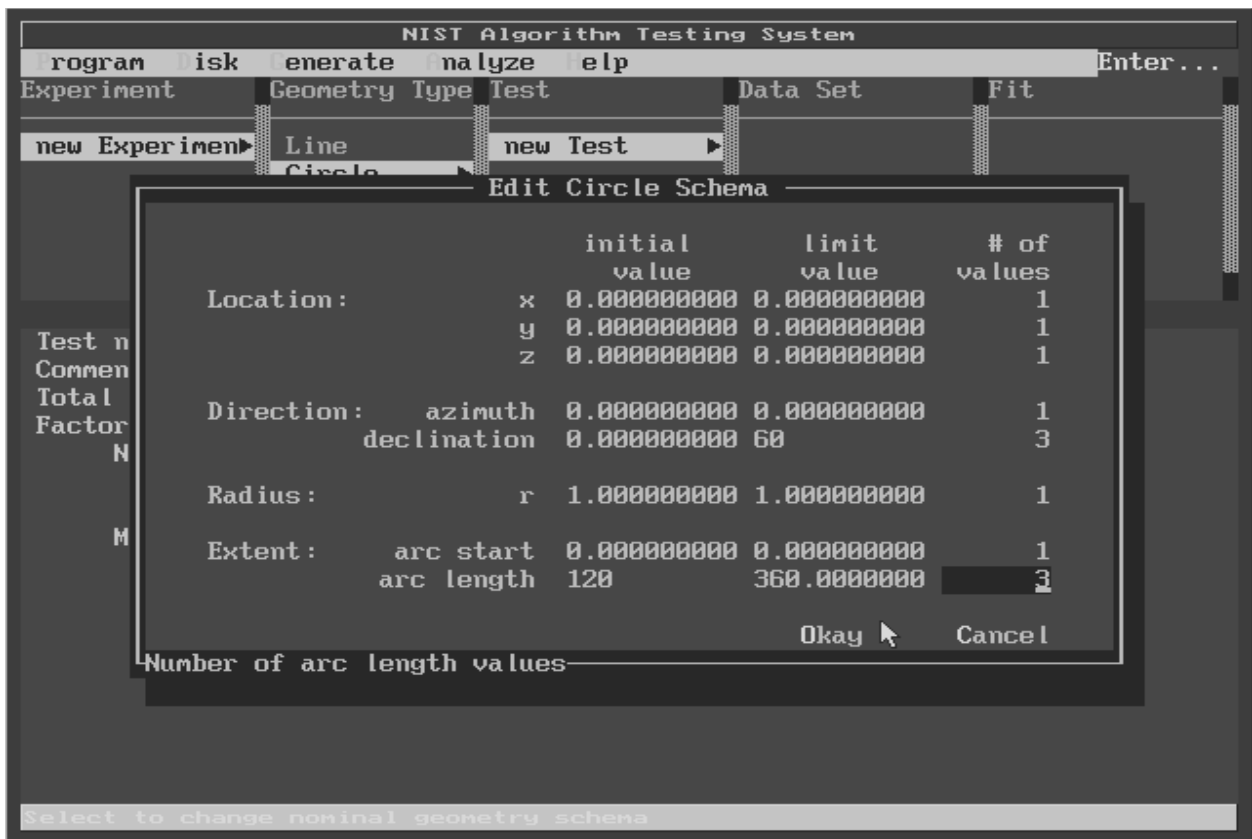

Figure 2 - The "Edit Circle Geometry" Window
- As shown in figure 2, you can insert values for the location, direction, radius, and extent of the circle. The direction specifies the direction of the normal to the plane of the circle. It is represented by an azimuth, or angle (in degrees) from the global x^+ , and declination, or polar angle from the global z^+ . (For further details press F1 to see the on-line help.) Enter 60 for declination's limit value, and 3 for declination's # of values. This will result in 3 declination values - of 0 (the start value), 30, and 60. Enter 120 for arc length's initial value and 3 for its # of values. This will result in 3 arc lengths - of 120, 240, and 360. (The proper values to be entered are shown in figure 2.) The total number of nominal circle definitions defined by these two schemata is $3 * 3 = 9$. When you are finished, select "Okay" (mouse, ENTER, Alt+O) at the bottom of the window. A "9" will now appear next to the "Nominal geometries" field in the test viewer.